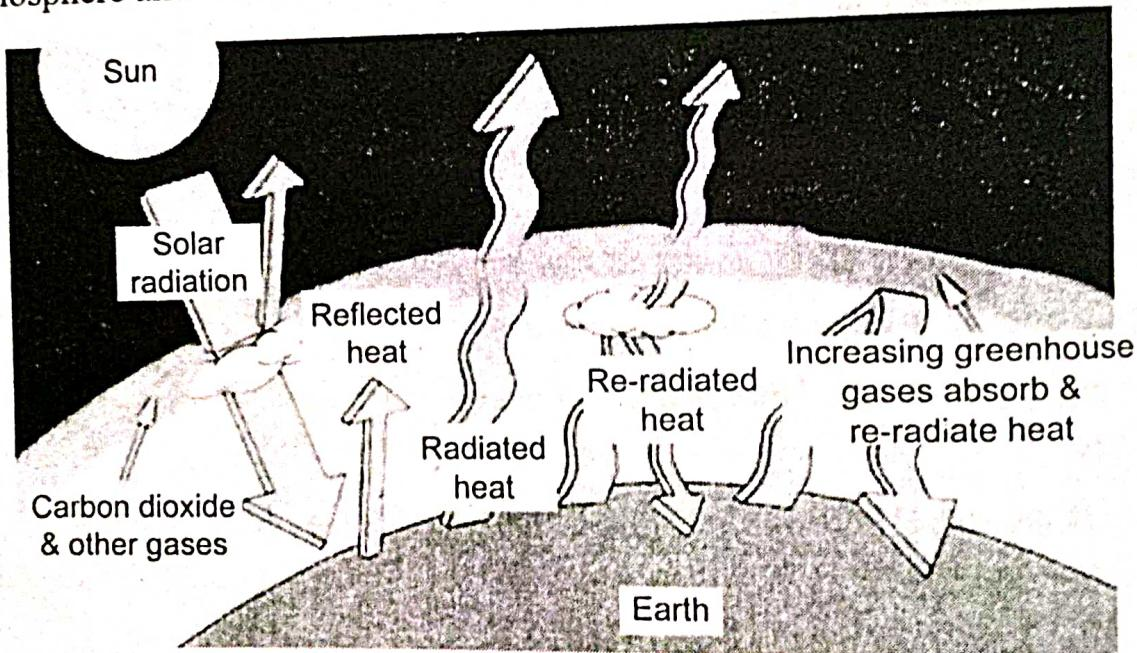

Fig. 2.3. The Greenhouse effect
- ❖ The simulation of CO₂ consumption in greenhouses is an essential aspect of Environment Control Systems (ECS) for optimizing plant growth. Carbon dioxide (CO₂) is a critical component of photosynthesis, and managing its concentration within the greenhouse environment can significantly impact the growth and yield of crops. Figure 2.3 shows the greenhouse effect process by which the heat from the planet surface is absorbed by greenhouse gases in the atmosphere and is redirected in all directions.